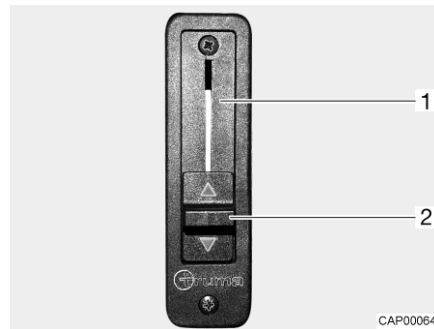

Fig. 34 Sliding regulator for branch block
- Opening branch block: ■ Push the sliding regulator (Fig. 34,2) fully upwards. The branch block (Fig. 34,1) is open. The living area heater also heats the windscreen.
- Closing branch block: ■ Push the sliding regulator (Fig. 34,2) fully downwards. The branch block is closed. The living area heater and the heater of the base vehicle are disconnected from each other.